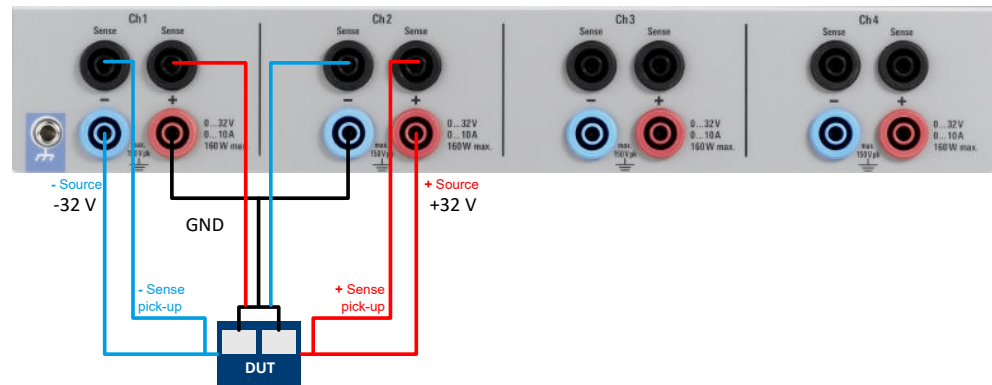

Figure 6-5: Example of a multi-quadrant connection
But you can generate a negative voltage by connecting two channels with common GND as shown in Figure 6-5. This setup achieves a voltage range between -32 V and +32 V. A negative current (current sink) is not possible.
- a) Connect both ground cables to the DUT, as shown in Figure 6-5.